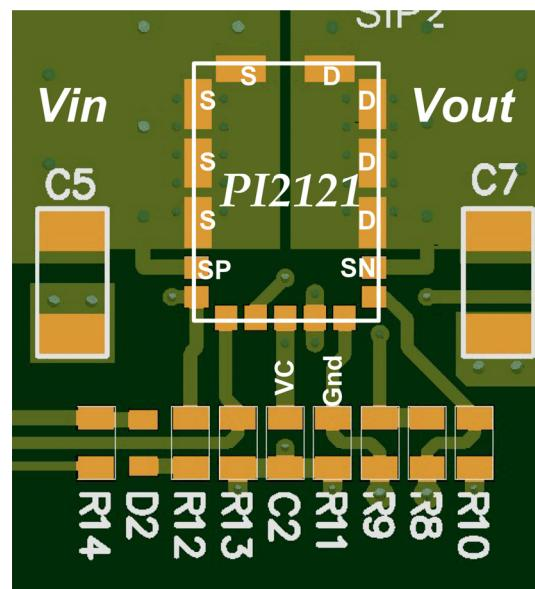

Figure 24: PI2121 layout recommendation
Use the following general guidelines when designing printed circuit boards. An example of the typical land pattern for the PI2121 is shown in Figure 24:
- Connect the SP pin to the S pins and connect the SN pin to D pins as shown in Figure 24.
- The VC bypass capacitor should be located as close as possible to the VC and GND pins. Place the PI2121 and bypass capacitor on the same layer of the board. The VC pin and C_{VC} (shown as C2 in Figure 24).
will produce a high voltage across the MOSFET. If it is not possible to connect the power source and S pins with a very short trace or common point, connect a capacitor (shown as C5 in figure 24), recommended value $1\mu F$, close to the S pins and return (ground). Also for the same reason use C7 in figure 24 at the output.